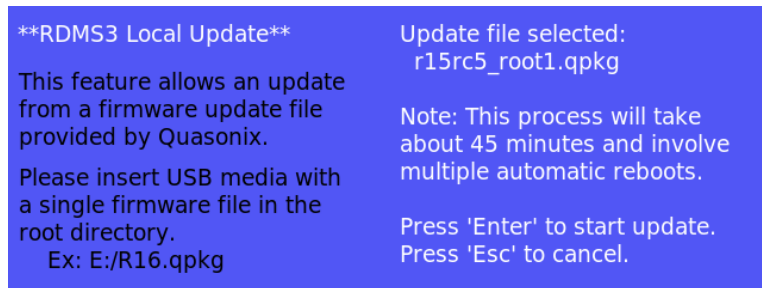

Figure 165: RDMS3 Local Update Screen, Update File Selected
7. If a proper update file is found, the name of the file displays on the front panel along with additional instructions, as shown in Figure 165.